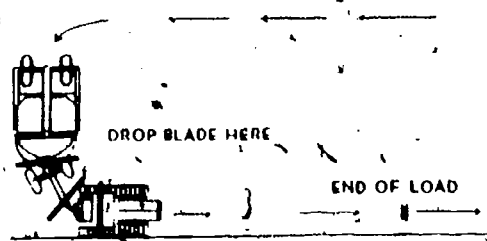

Fig 4-41. Opening sidehill with scraper.
- (d) **Sidehill cuts.** The best way to start a sidehill cut for a scraper is to use a bulldozer as described previously. If you do not have a bulldozer, you can start a sidehill cut as illustrated in figure 4-41. Raise the apron 6 or 8 inches and climb the slope at right angles to the line-of-slope stakes. When the front end of the prime mover is within a few inches of the stakes, swing the prime mover around parallel with the line of stakes, while at the same time lowering the blade into the ground. The scraper will follow the prime mover through the turn and, as it does, the blade will cut into the hillside. To get a level bench suitable for starting the lengthwise cut, it may be necessary to make several passes in this manner. Use caution when working on slopes; it is possible to turn the tractor and scraper over or have them slide down the hill sideways.